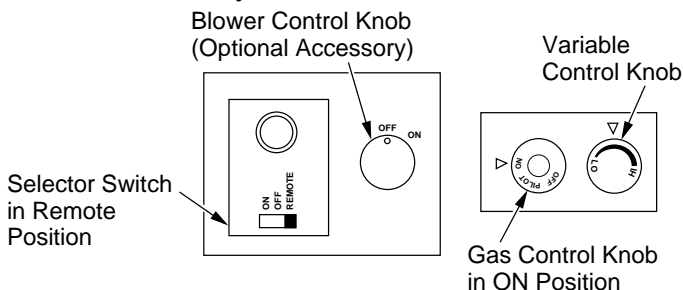

Figure 52 - Setting the Selector Switch, Gas Control Knob, and Variable Control Knob for Remote Operation
1. After lighting, let pilot flame burn for about one minute. Turn control knob to ON position. Adjust flame adjustment knob anywhere between HI and LO. Slide the selector switch to the REMOTE position (see Figure 52). **Note:** The burner may light if hand-held remote was on when selector switch was last turned off. You can now turn the burner on and off with the hand-held remote control unit.